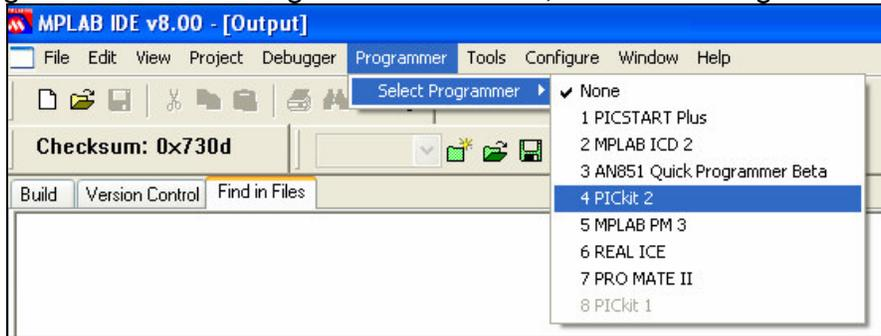

Figure 13 Select Program Device
5. Click “Programmer/Select Programmer/PICkit 2”, as shown in figure 13.